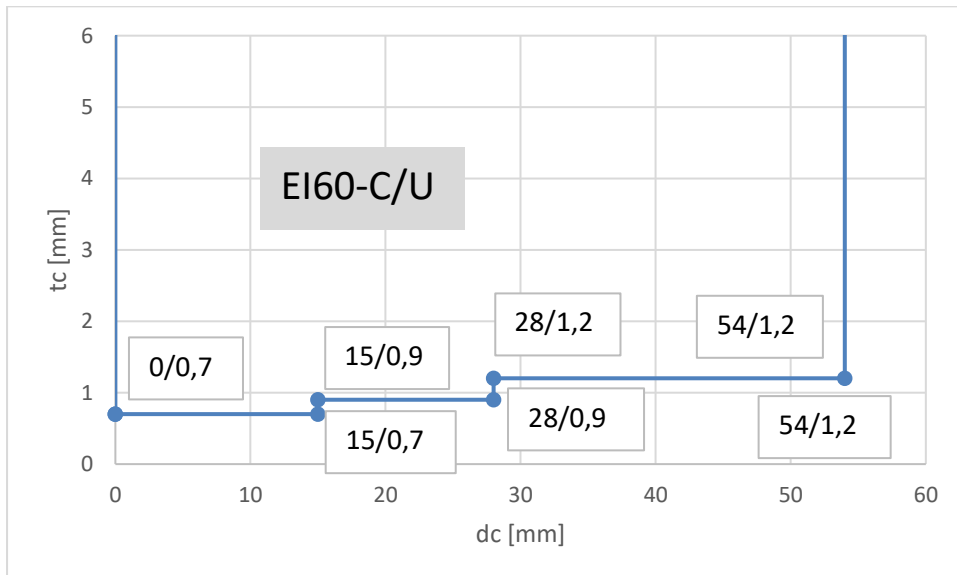

Figure 56: Classification range for insulated metal pipes with protect insulation
Classification given in Figure 56 is valid for:
- Pipe diameter and minimum pipe wall thickness: refer to Figure 56